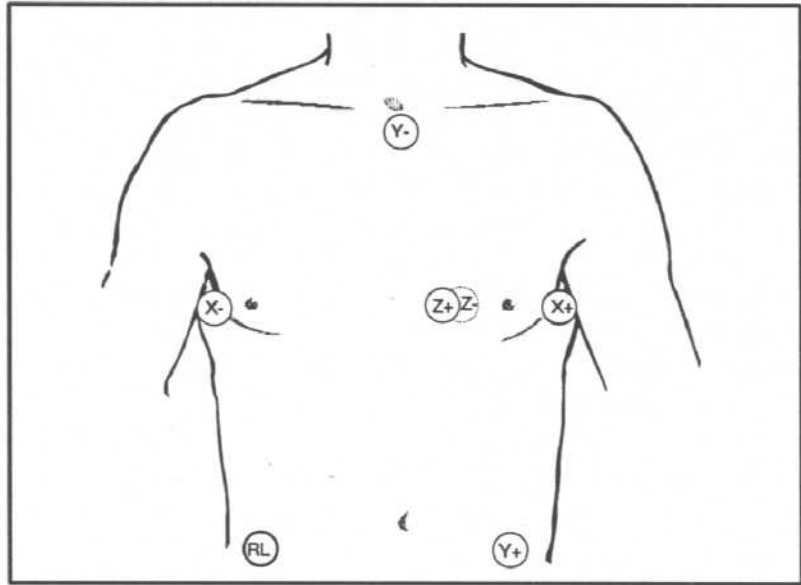

Figure 1-1. Placing Electrodes for an SAECG.
3. Place the electrodes as shown in Figure 1-1.